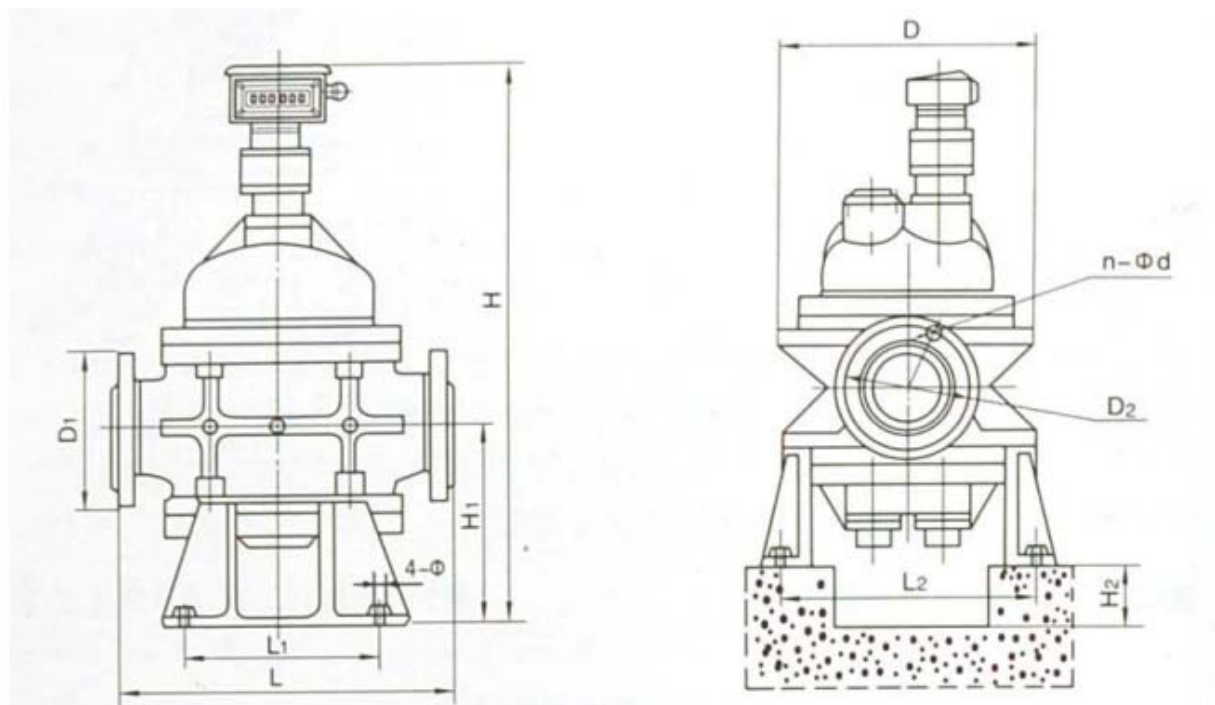

Fig.12 Flow Meter Dimensions (3)
- C. Dimensions and Installation Reference for Flow Meters in Configuration No. IV , see Fig.12 and Table 5;